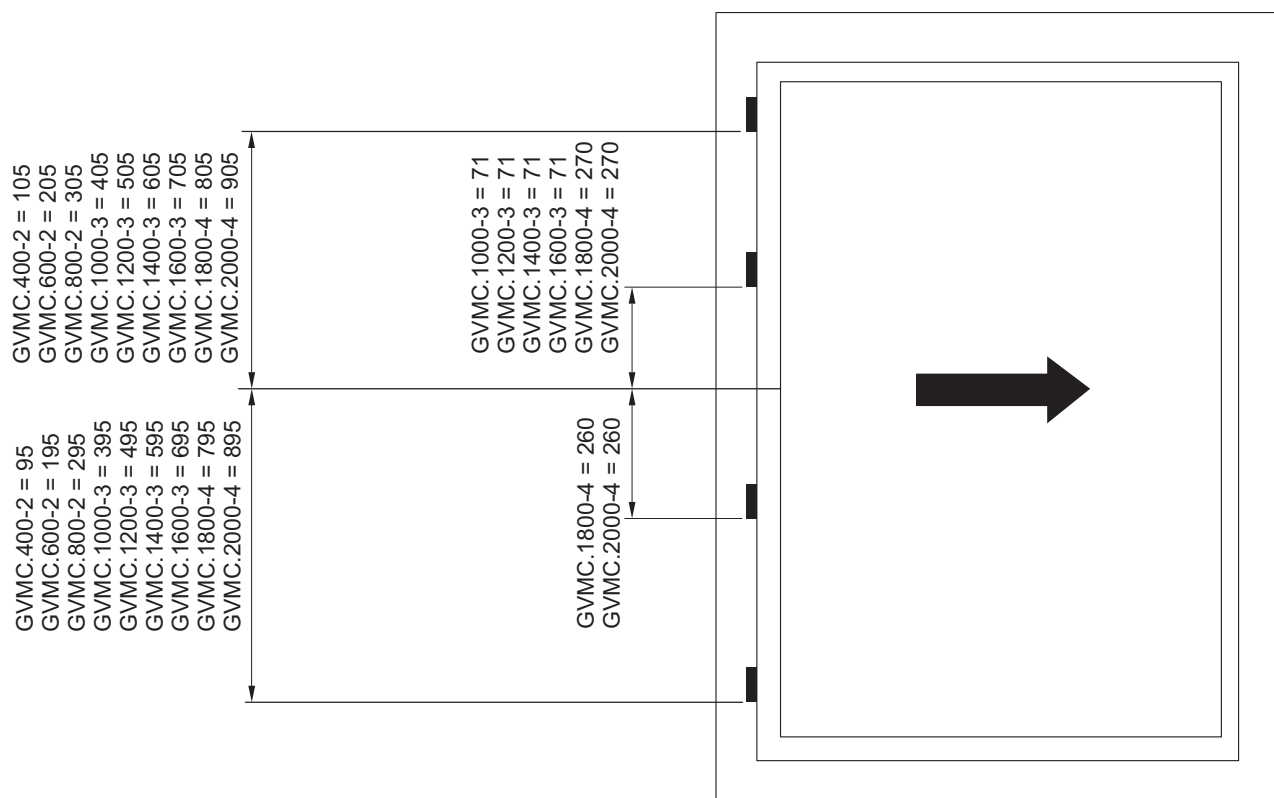

Fig. 1: Keep position "central handle position for D15.5"
- See Group 6, Figure 1, 2 & 3 for installation position
Figures 1 and 3 show the different options for keep positions.